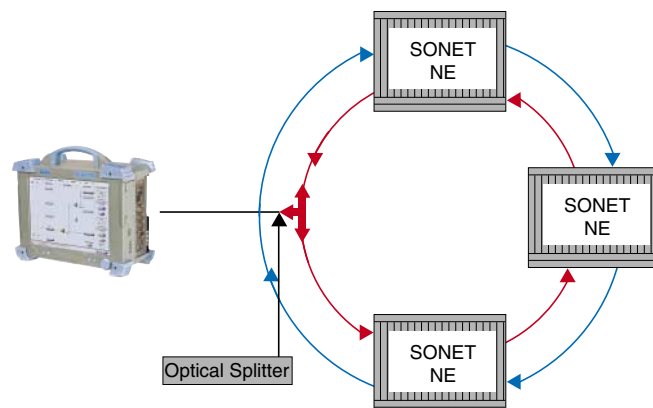

Figure 1.3. Configuration for APS Measurement
1. Connect the FTB-8000 to the protection channel of the network either in through mode or by using an optical splitter. An optical splitter may be preferred as this method is less intrusive (see Figure 1.3).